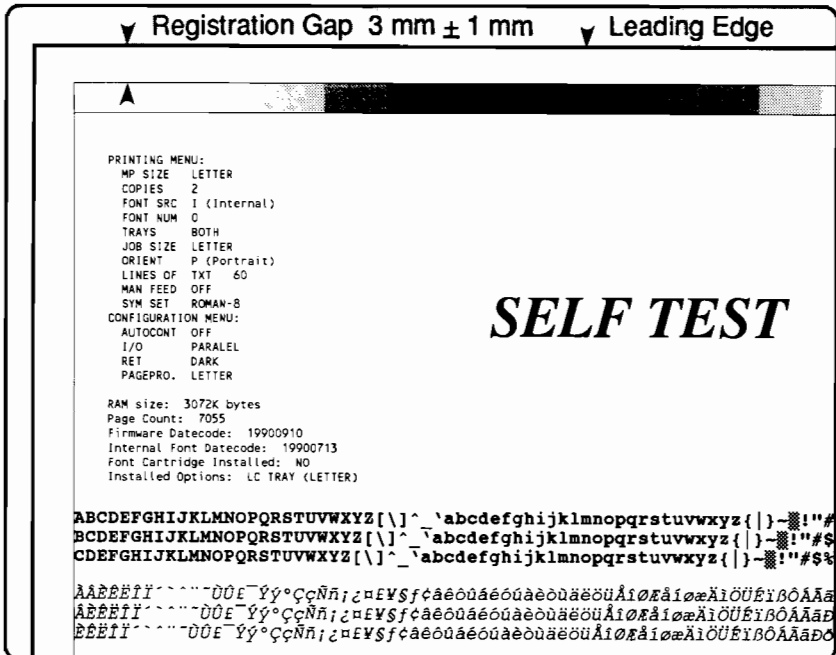
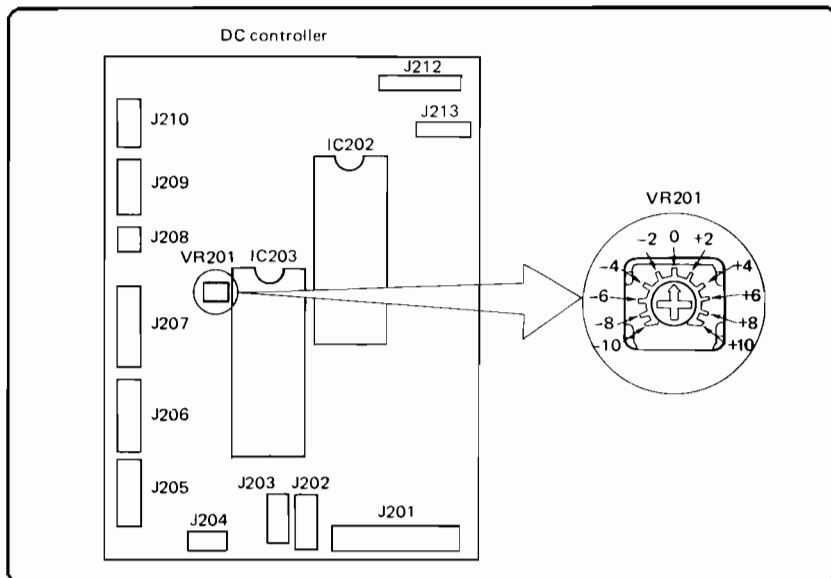
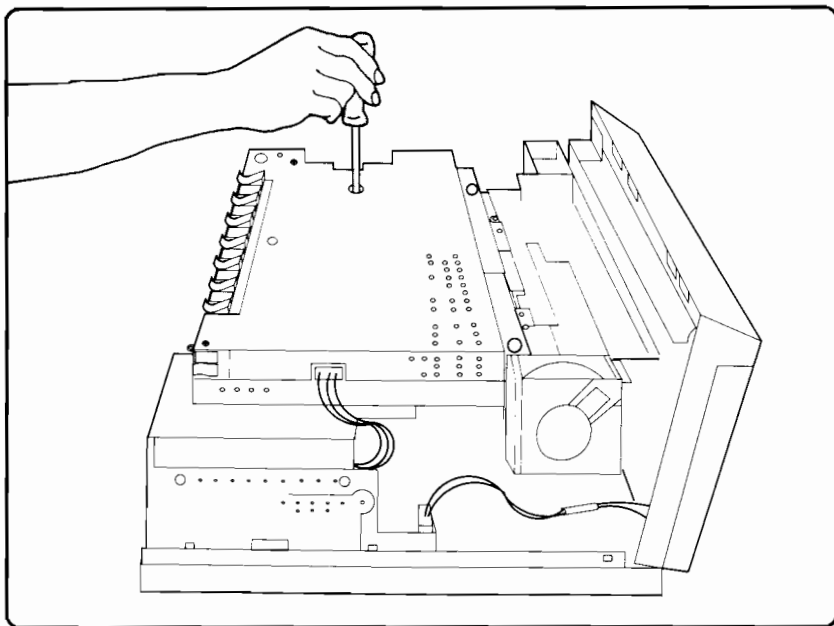

Figure 4-20. Measuring the Registration Gap
Figure 4-21. VR201 Settings
Figure 4-22. Adjusting the Registration Gap
1. Remove the Top Cover screws (see "Top Cover" in Chapter 6), and offset the cover to access VR201 on the DC Controller (see Figure 4-22).
2. Adjust VR201 on the DC Controller to an initial setting of zero (0) - see Figure 4-21 and Figure 4-22.
5. Measure the distance from the leading edge of the page to the first dot row of the print image (see Figure 4-20).
Example: If the measured registration gap distance is 1 mm, subtract 1 mm from 3 mm to arrive at the +2 mm adjustment required. Set VR201 at approximately +8 by turning it clockwise (see Table 4-2, and Figure 4-21).
7. Adjust VR201 for a registration gap to equal 3mm (see Figure 4-20 and Figure 4-22).